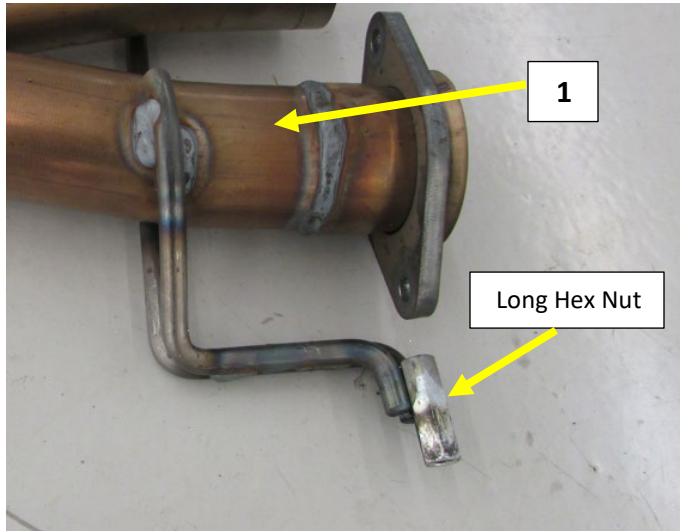
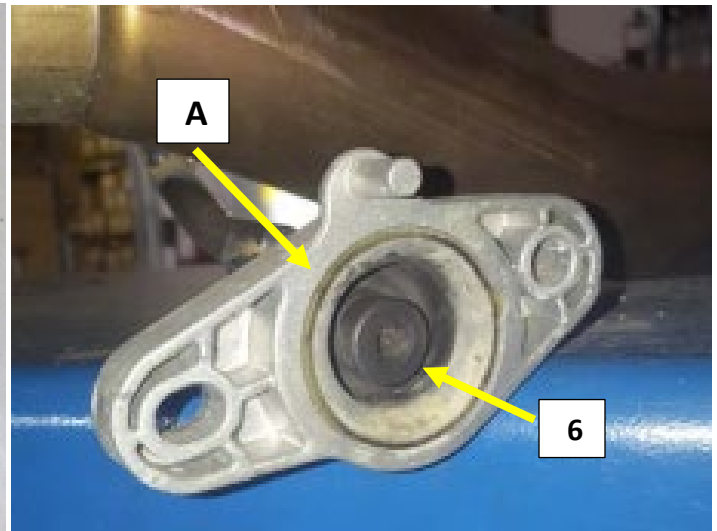

Figure.3
Figure.4
1. Install the Frame hanger isolator (**A**) **Fig.4** on to the long hex nut of the inlet pipe (**1**) **Fig.3**
2. Install the $\frac{1}{2} \times \frac{3}{4}$ " shoulder bolt (**6**) into the hex nut from the back of the isolator and tighten. **Fig.4**